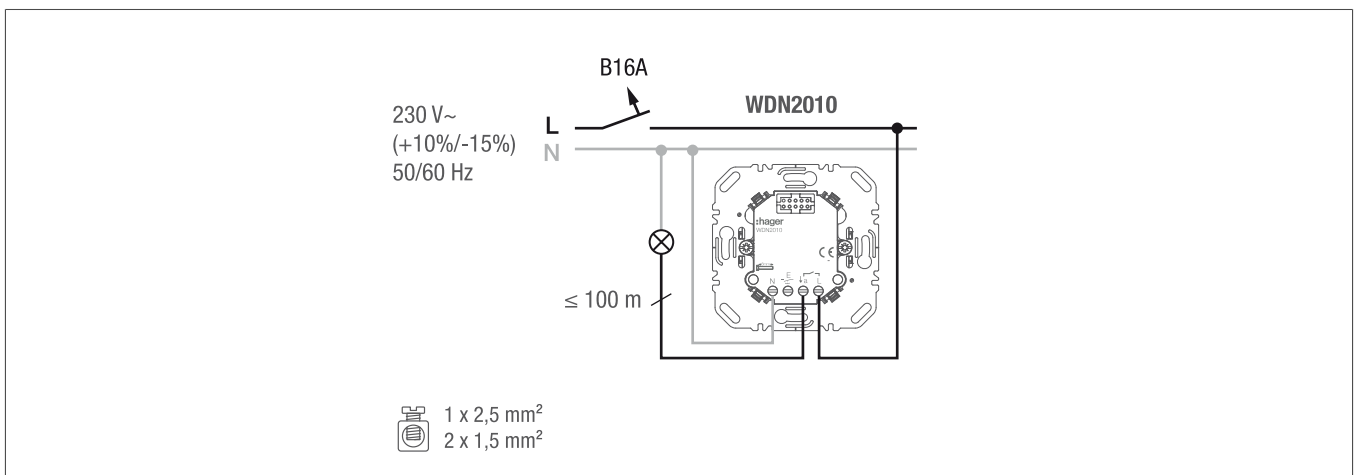

Fig. 2: Connection diagram
① Connect the device according to the connection diagram (Figure 2, 3 or 4).